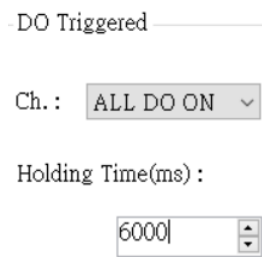

Figure 5.10.11
I. Select the setting for DO when triggering the alarm, Ch select “ALL DO ON” to turn on DO0 and DO1, and Holding Time (ms) to select “6000” ms to let DO turn on after 6 seconds, as shown in Figure 5.10.11